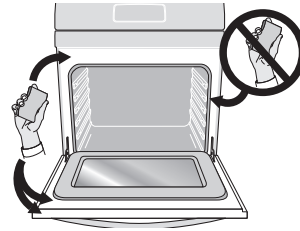

Figure 10: Clean around the oven door gasket
9. Wipe oven cavity and bottom. Do not clean oven door gasket (Figure 10). Avoid leaning or resting on the oven door glass while cleaning cavity.